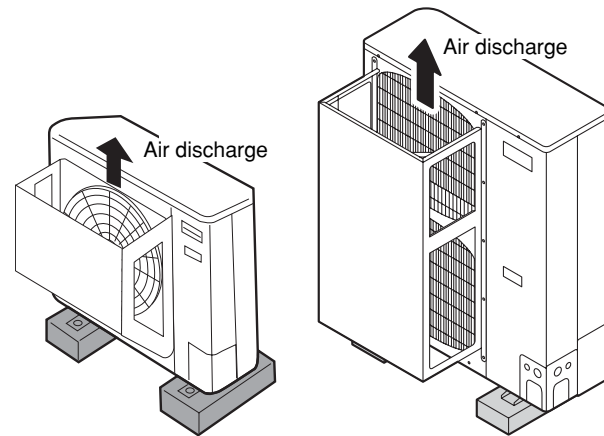

Fig. 2-5
- the air discharge outlet is facing a sidewalk and discharged hot air may bother passers-by. Refer to Fig. 2-5.